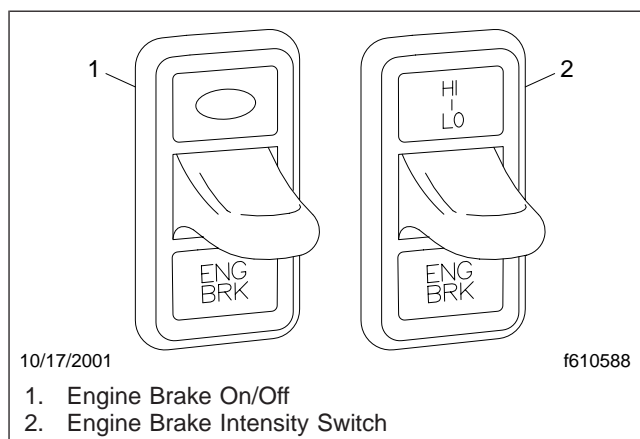

Fig. 7.17, Engine Brake Switches
- The On/Off switch (ENG BRK), is used to turn the engine brake on and off. See Fig. 7.17. When the engine brake is on, an amber light will illuminate behind the switch.
2. Press the On/Off switch to toggle the engine brake on. See Fig. 7.17. The engine brake will engage at the rate last set on the brake intensity switch.